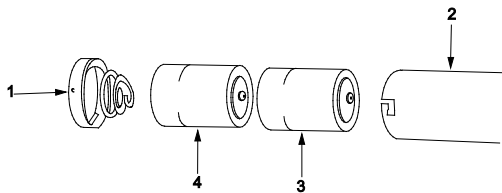

Figure 3. M51 Instrument Light Battery Removal and Installation.
1. Press cap assembly (Figure 3, Item 1) and turn counterclockwise.
2. Remove cap assembly (Figure 3, Item 1) from light tube (Figure 3, Item 2).
3. Remove D-cell batteries (Figure 3, Item 3) and (Figure 3, Item 4) from light tube (Figure 3, Item 2).
1. Insert two D-cell batteries (Figure 3, Item 3) and (Figure 3, Item 4) in light tube (Figure 3, Item 2).
2. Align pins in cap assembly (Figure 3, Item 1) with slots in light tube (Figure 3, Item 2).
3. Press in on cap assembly (Figure 3, Item 1) and turn clockwise to lock it in place.